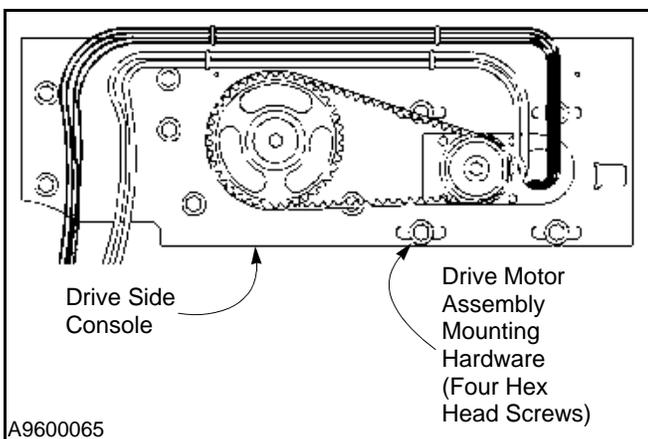

Figure 33
3. Loosen the four hex head screws securing the drive motor assembly to the drive side console. (See Figure 33.)
4. Adjust the primary drive belt tension by sliding the drive motor assembly left or right to decrease or increase the belt tension. (See Figure 33.)